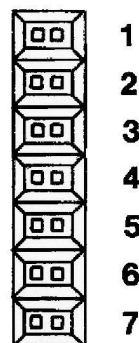

Figure 2. Jumpers
**STEP 10.** Find the block of jumpers on the upper right of the Accelerator IIe. Refer to Figure 2. There are 7 jumper positions. The top jumper goes with slot 1, the next with slot 2, etc. The bottom jumper goes with slot 7. Now for each slot where you have any type of memory board, remove the corresponding jumper (small plastic gadget). If you have an Apple IIe, ignore the auxiliary slot. For an Apple II or II Plus, the Accelerator IIe will not recognize a memory board in slot 0. Thus there is no jumper for slot 0. We recommend that you put the Accelerator IIe in slot 0 of an Apple II or II Plus.